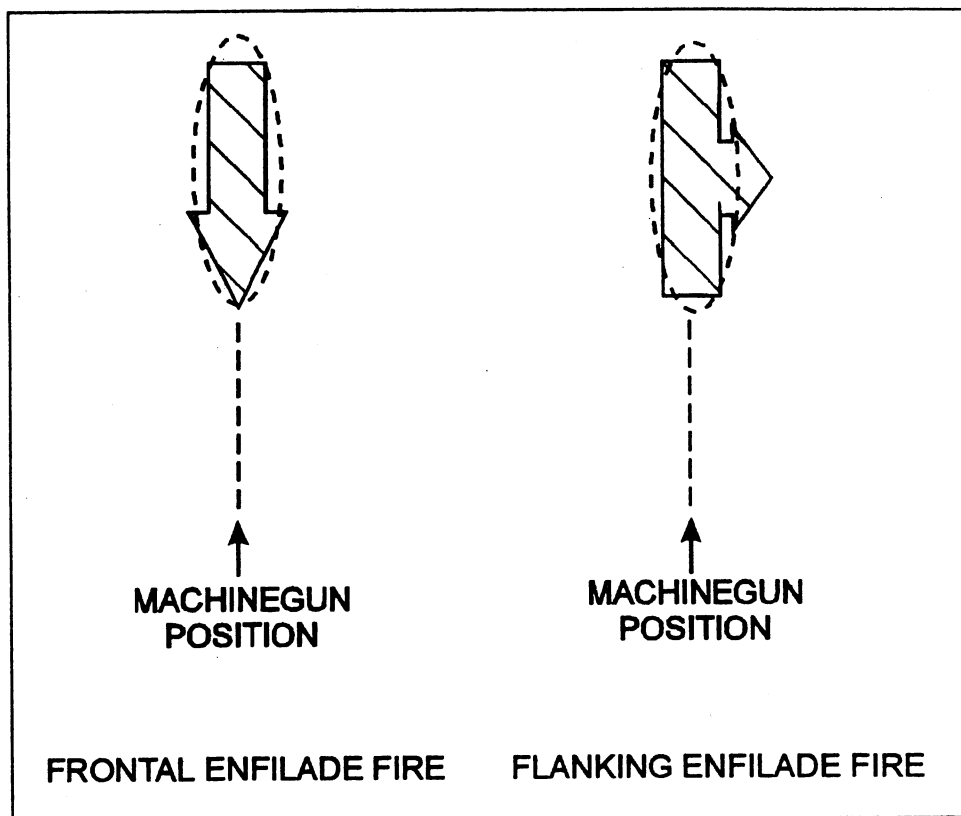

Fig 3-8. Enfilade fire.
- e. Enfilade fire is delivered in such a way that the long axis of the beaten zone coincides or nearly coincides with the long axis of the target. This class of fire is the most desirable class of fire with respect to the target because it maximizes the use of the beaten zone. As you will note in observing figure 3-8, enfilade fire can be combined with both frontal and flanking fire. During employment of your machinegun, you should attempt to anticipate the enemy's direction of